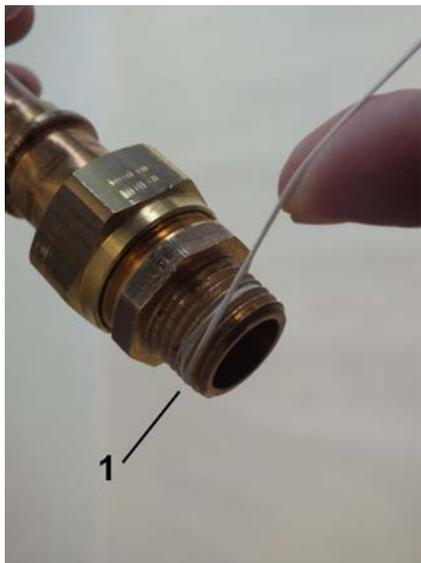

Fig. 9: Apply sealing thread
2. ➤ Apply sealing thread (Fig. 9/1) to the napped area in the threaded direction. Observe the quantity recommended by the sealant manufacturer.